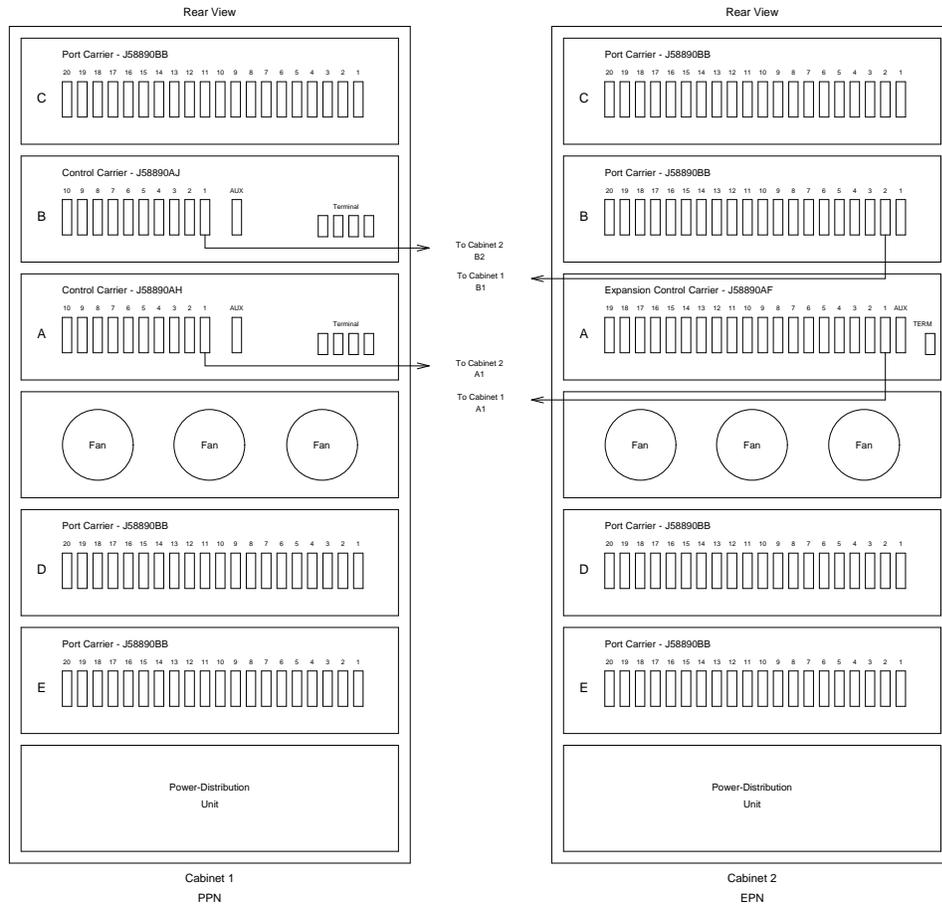
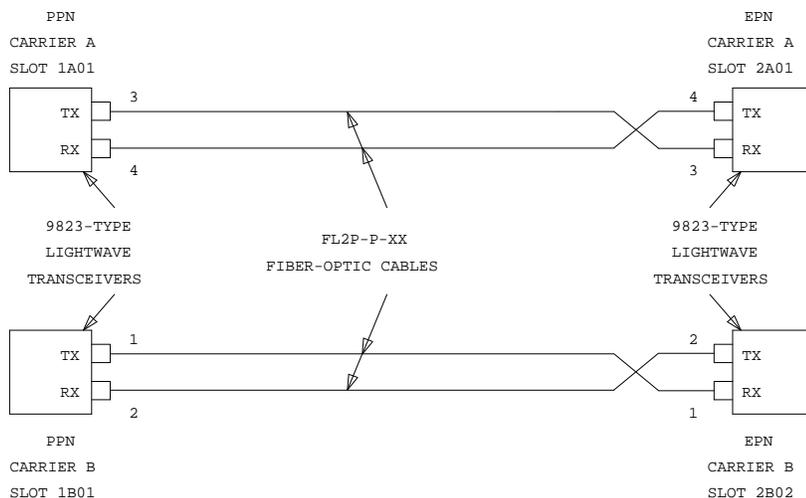
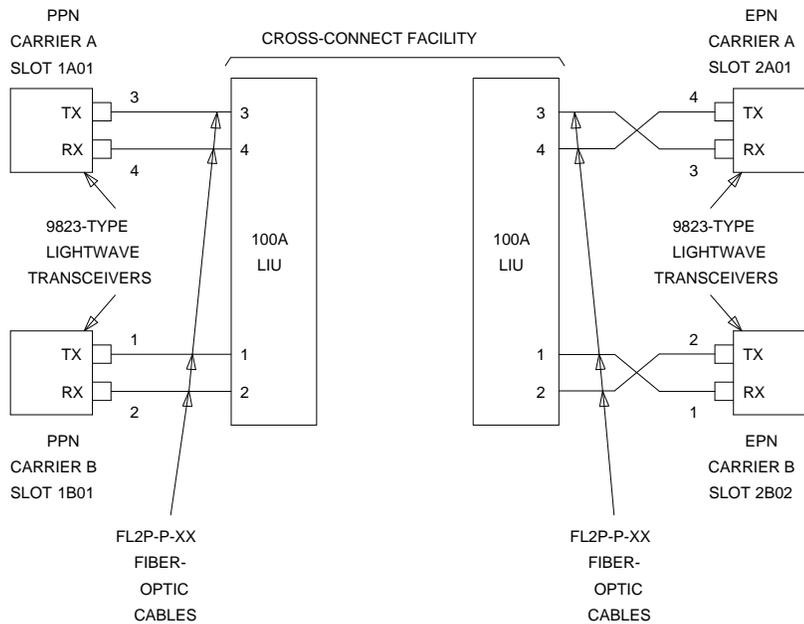

Figure 3-57. Critical-Reliability G3i V4 with Two Port Networks
Figure 3-58. With Critical Reliability
Figure 3-59. With Critical Reliability
The connectors on the lightwave transceivers are labeled either “TX” (transmit) or “RX” (receive), while the fibers attached to each connector are numbered either “1” or “2.” A viable fiber connection is only made when both fibers in each cable (that is, “1” and “2”) route from the “TX” connector of a port network to the “RX” connector of its adjacent port network. For an example, refer to Figure 3-58.
1. Behind control carrier A of the PPN cabinet (see Figure 3-57 and Figure 3-58):
1. Behind control carrier A of the PPN cabinet (see Figure 3-57 and Figure 3-59):